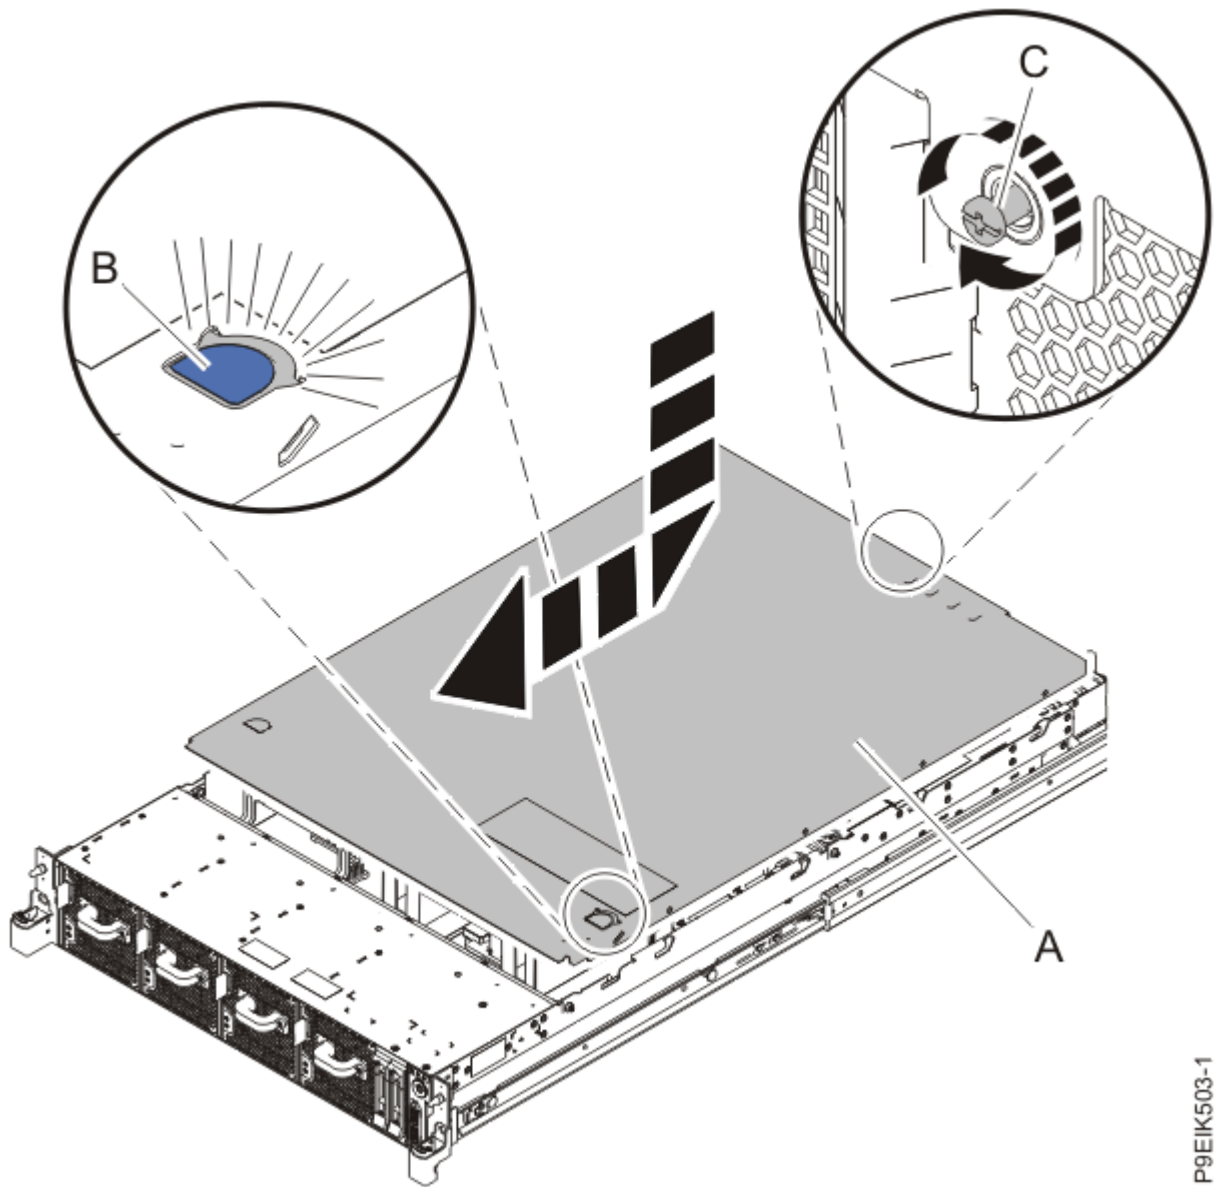

Figure 12. Installing the cover
1. Place the cover **(A)** on the system unit such that the alignment pins on the cover are aligned to the slots on the chassis. Slide the cover to the front of the system until the blue release latch **(B)** locks in to place as shown in Figure 12 on page 25.
2. Fasten the cover screw (C) at the rear of the cover.